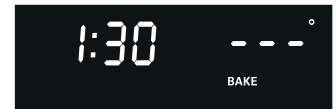

Figure 1
2. Press **Bake** , " - - - ° " will appear in the display (Fig. 1).